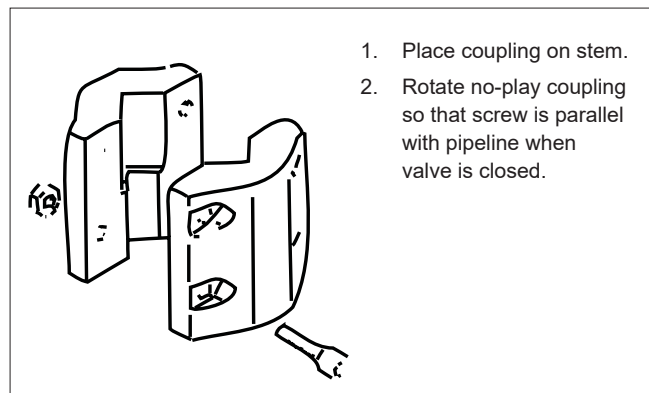

Figure 6.
- Place the coupling onto the valve shaft. If the linkage contains a split, no-play coupling, assemble the coupling loosely on the valve stem. Use socket head cap screws and lock nuts. See **Figure 6**.